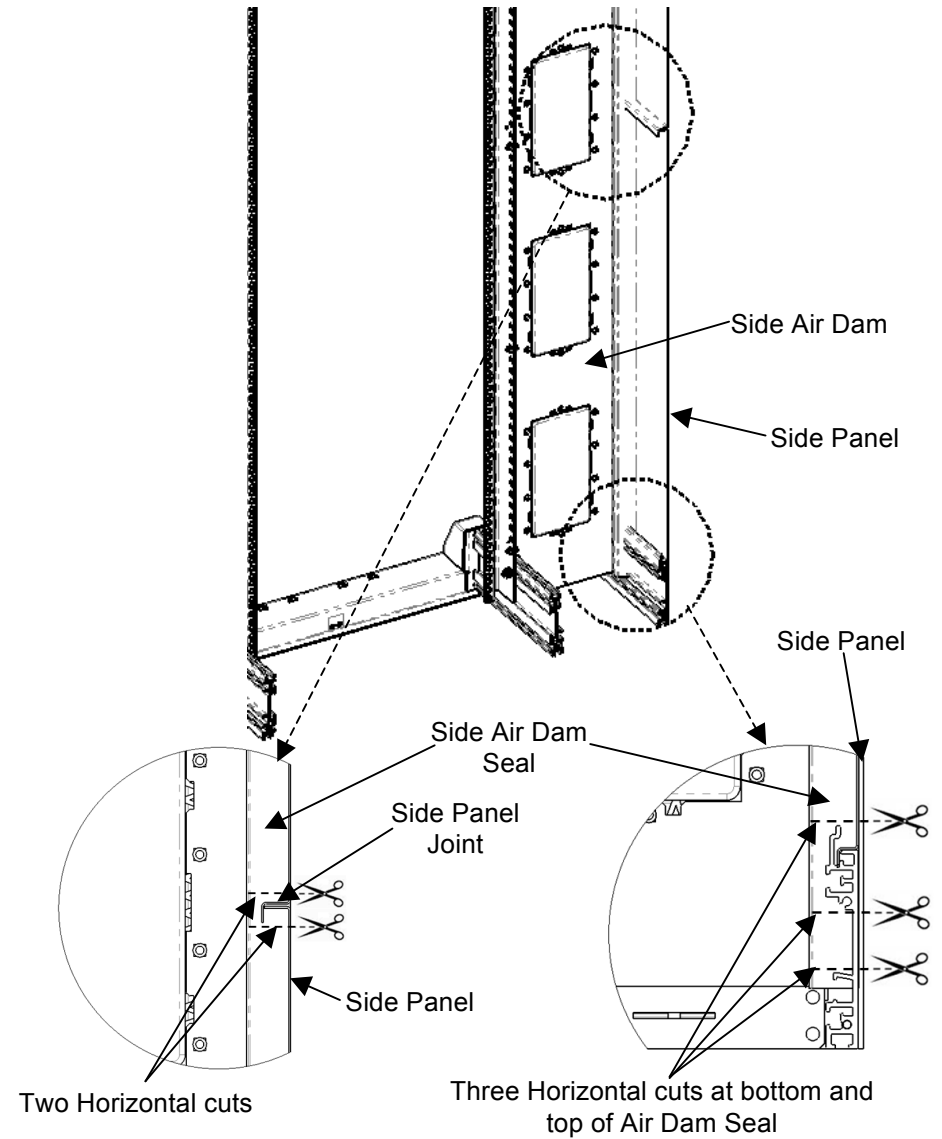

Fig. 10
8. Cut the flexible part of side air dam seal around the slides and side panel center joint. See the Fig. 10 for location of the cut.